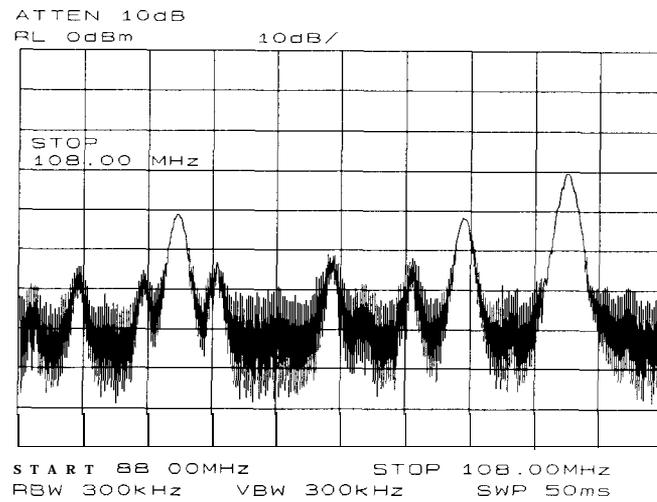

Figure 2-27. FM Band
- c. Press **STOP FREQ** ; enter 108 MHz (see Figure 2-27).